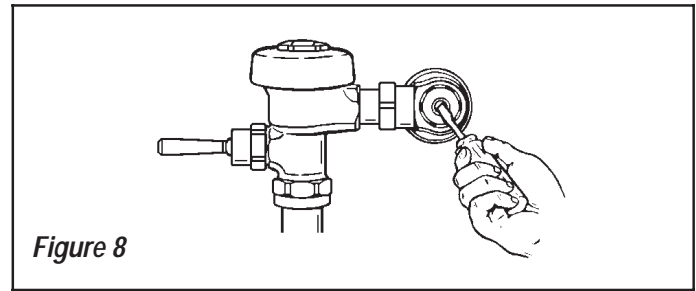

Figure 8
Step 6 - Adjust Control Stop (Figure 8)